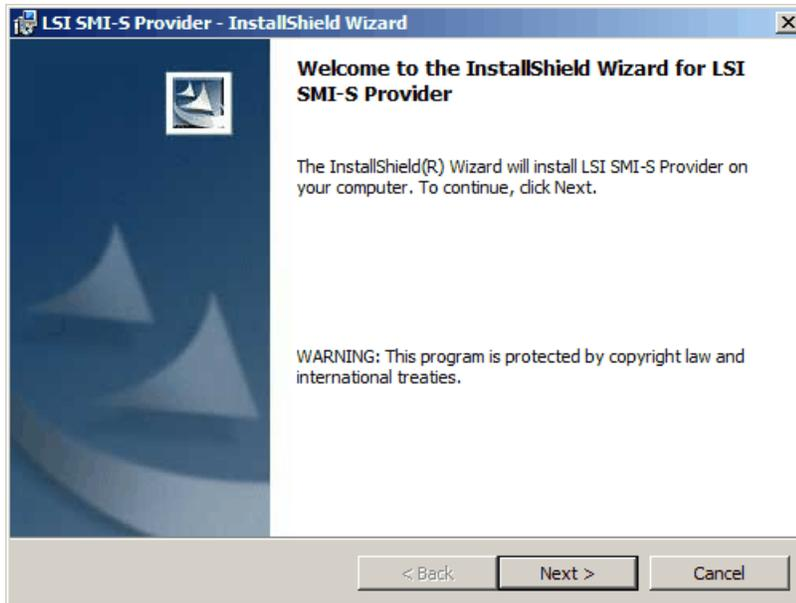

Figure 9-5 Welcome window of DS5000 SMI-S Provider InstallShield Wizard
2. Extract the downloaded file and launch the installer to start the installation process. In our example, the installer file name is LSI\_ARRAY-WS32-10.19.6021.exe. Launching the executable starts the Installshield Wizard and opens the Welcome window, as shown in Figure 9-5 on page 371. Click **Next** to continue.